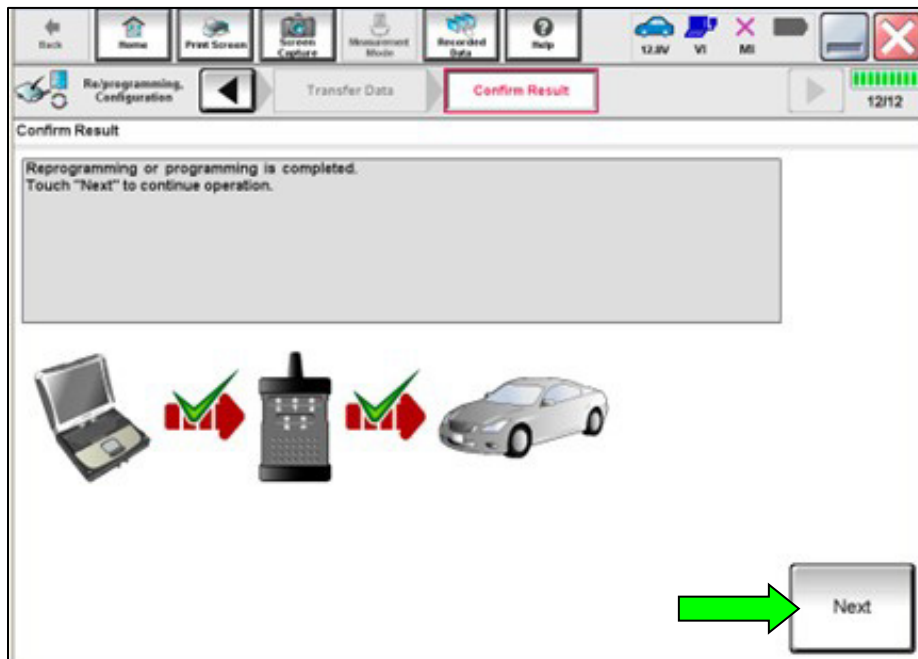

Figure 16
26. Once the screen in Figure 16 displays, the reprogramming is complete. Select **Next**.
**HINT:** When the screen in Figure 16 displays, HV Battery reprogramming is complete. If the screen in Figure 16 does not display (indicating that reprogramming did not complete), refer to the information on page 27.